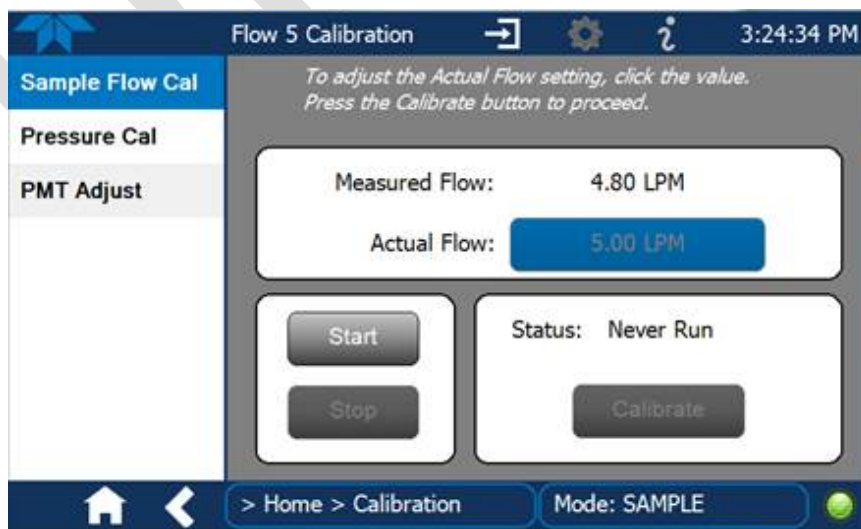

Figure 13. Sample Flow calibration screen.
6. Compare the “Measured Flow” in this screen to the Flow Standard (Figure 13) and determine if these values differ by more than 5%, (e.g., outside of 4.75 – 5.25 lpm for sample flow, if the sampler reads 5.00).